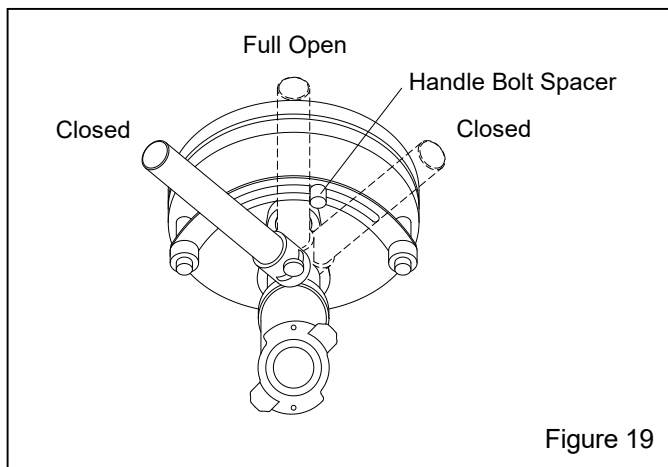

Figure 19
5.2 Media Metering (media flow) – Figure 19
These instructions and the illustration in Figure 19 are for a standard cabinet with FSV Metering Valve. Optional metering valves may function differently, but the process is similar. Refer to the metering valve owner's manual for the operation of the optional valve provided.
5.2.1 Adjust media flow using the metering valve located at the bottom of the blast machine. Begin adjustments with the media valve closed; the valve is closed when the handle is fully turned to either side of center, as shown in Figure 19. To adjust, press the foot pedal and have someone increase media flow by turning the handle slowly toward center, no more than 1/4" at a time. Allow time for the flow to stabilize before readjusting. Optimum flow depends on the type and size of media and blasting pressure, and can best be determined by experience. Use as little media as possible to do the job while maintaining the best cleaning rate. Generally, with the correct mixture, media can be seen as light discoloration as it exits the nozzle.